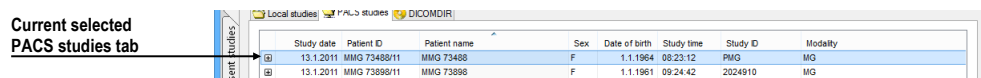

Figure 416 – Opened patient study from PACS
- Finding and opening a required study stored in a remote DICOM device (see Figure 416) by taking the following steps: